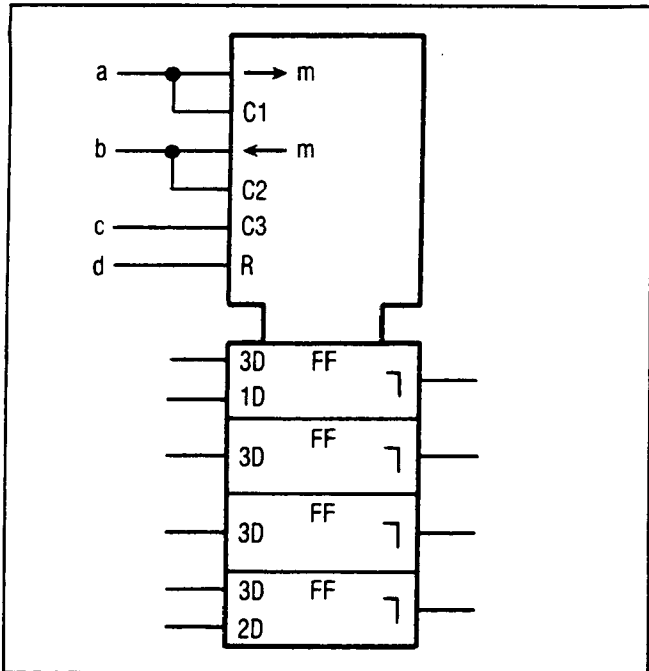

Figure 8-15. Shift Register
**Shift Register.** The shift register (see Figure 8-15) control block shows common inputs to a bidirectional shift register. Notice that ">m" means shift the contents to the right or down by "m" units. And "<m" means shift the contents to the left or up by "m" units. Note: If  $m=1$ , then "m" may be omitted. Inputs "a" and "b" are each single IC pins that have two functions.